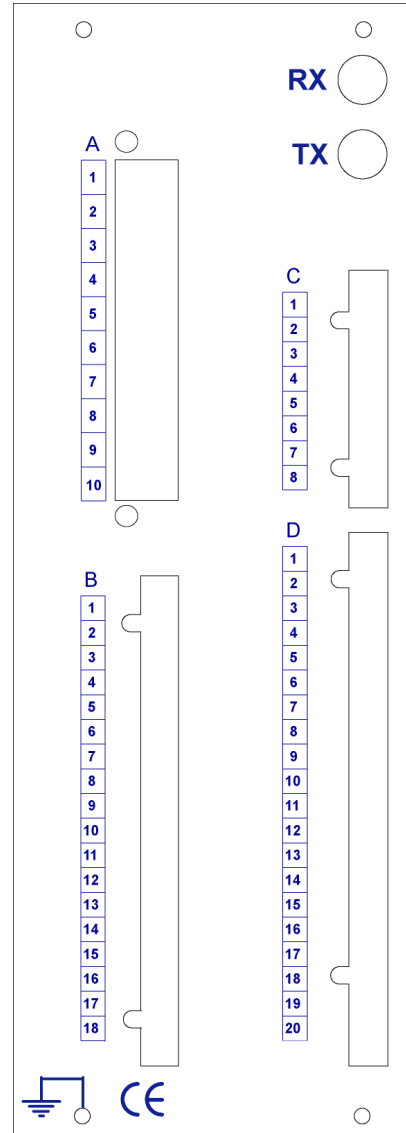

Figure 4.5: 3CPI-\*\*\*-\*\*\*2\*\* Model Rear View.
**Note:** CPI-\*\*\*-\*\*\*2\*\* special models have one row or column of 18 terminal connectors (B row or column in figure 4.5) for inputs (8 digital inputs) and two row or columns for the outputs (10 digital outputs), first of them of 20 terminal connectors (D row or column in figure 4.5) and the other one of 8 terminal connectors (C row or column in figure 4.5).